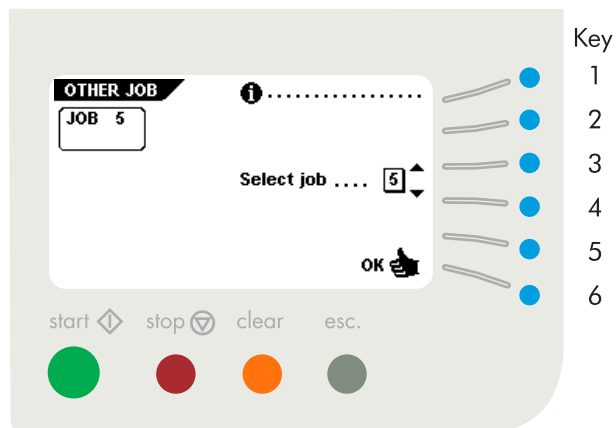

Fig. 11
After pressing key 2 in the "main menu (1)", the display shows the "other job" menu (see fig. 11). The "other job" menu shows the following functions:
- job information (key 1) (see section 4.3).
- select a higher job number (key 3).
- select a lower job number (key 4).
- select the desired job and confirm with "OK" (key 6) which will get you back to the "main menu (1)".